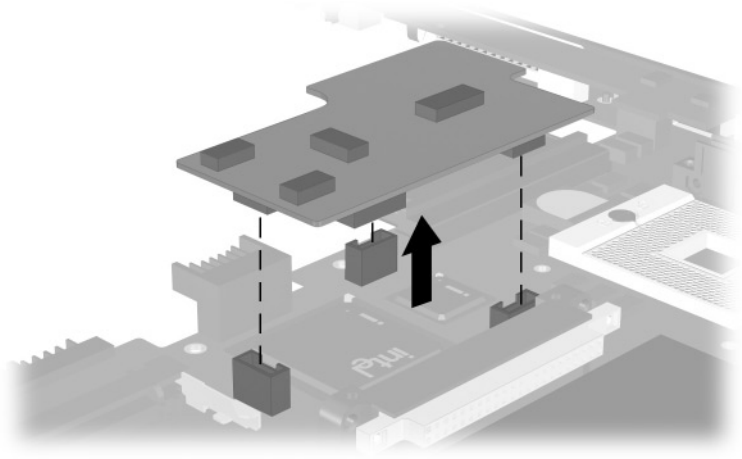

Figure 5-37. Removing the DC-DC Converter Board
3. Lift the left and right edges of the DC-DC converter board to disconnect the board from the system board (Figure 5-37).